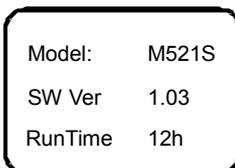

Figure 4-3 Product information screen
4. At any system information screen, press the **ESC** key to return to the first system information screen. Press the **ESC** key to enter product information screen, as shown in Figure 4-3. This screen displays the model, mode, of the controller, the software version and runtime. At the product information screen, you can press the **ESC** key, the **ENT** key, ▲ or ▼ to return to the first system information screen. There will be a difference for the displayed actual value.